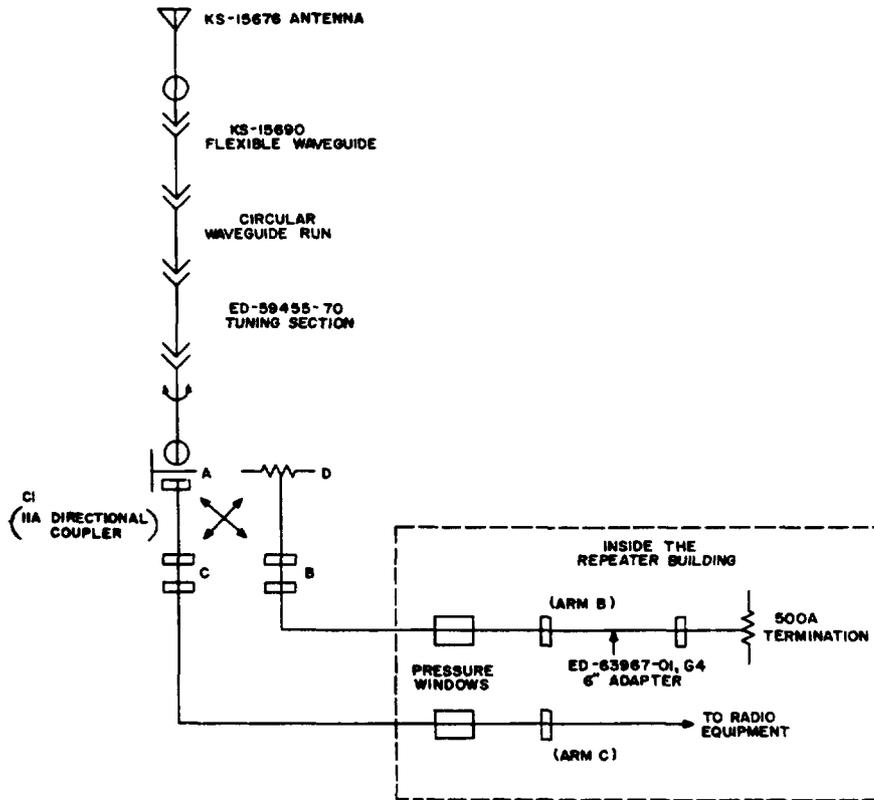

Fig. 9 - Orienting 11A Coupler and Tuning Section
(1) Move the telephone from the antenna deck and relocate it at the bottom of the waveguide run. The man orienting C1 now may communicate with the man at the receiving equipment.
(2) Loosen the eight 5/16-18 bolts 1-1/4 inches long, connecting the 11A coupler C1 to the tuning section as shown in Fig. 9. Rotate C1 to the approximate position for the maximum received test signal.
(3) Now tighten the bolts finger tight, but loose enough so that C1 may be rotated with a P-38B665 wrench. Using this wrench, adjust C1 to the correct position for the maximum received test signal.
(4) Set the IF attenuators so that the signal level meter reads 0 dbm when the maximum signal is being received from the transmitting antenna. Record the sum of the IF attenuator settings for the maximum test signal as received in (3).